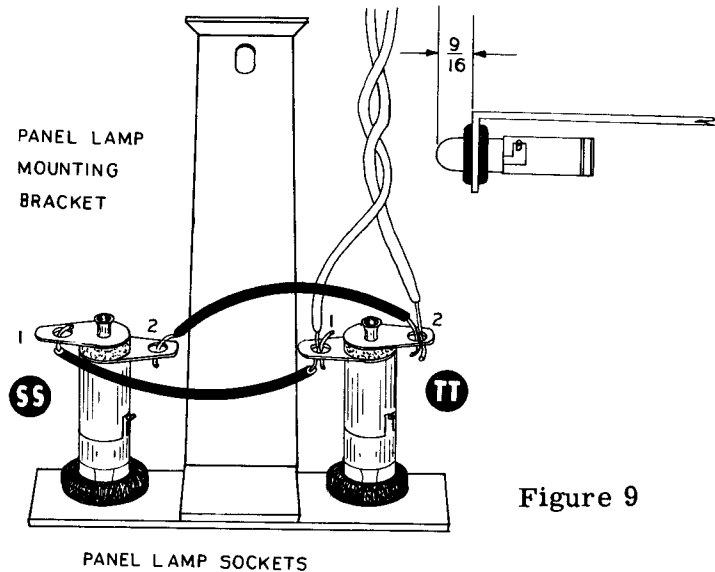

Figure 9
- ( ) Insert 1/2" rubber grommets in holes SS and TT in the panel lamp mounting bracket. See Figure 9.
- ( ) Install the two #47 pilot lamp bulbs in the pilot lamp sockets and push the bulbs through the rubber grommets until the end of the bulb is 9/16" from the outer surface of the bracket. It is important to measure this distance carefully so that the bulb will not be in contact with the panel. See Figure 9.
- ( ) Cut two 4" lengths of hookup wire. Connect the terminals of the lamp sockets by running one wire from SS1 (S-1) to TT1 (NS). Connect the other wire from SS2 (S-1) to TT2 (NS).